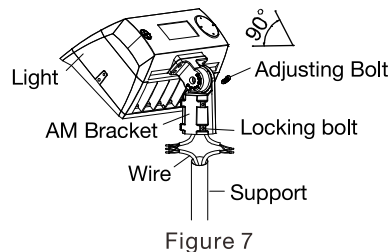

Figure 7
1. Adjustable fitter mounting (AM)
- STEP 1: Connect the wire correctly and put the wire into pole. Then fasten the locking bolts between slip fitter and the pole. (FIGURE 7)